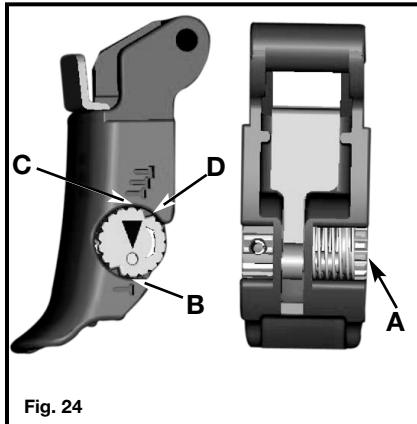
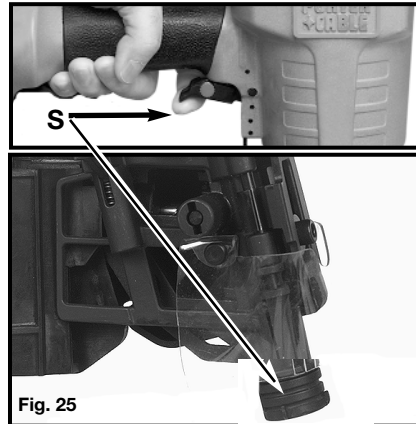

Fig. 24
Fig. 25
**1.** To use the tool in the **SINGLE SEQUENTIAL ACTUATION MODE** depress trigger lever pivot pin (A) Fig. 24, rotate arrow to position (B), and release. **Note:** Trigger lever pivot pin is spring loaded and held in position by locking tab (D) Fig. 24 to prevent movement during operation. To fire, grip tool firmly to maintain control, position nose of tool onto work surface, **push tool firmly against work surface to depress safety, as shown at (S) Fig. 25, and then squeeze trigger to fire a fastener.** Allow tool to recoil away from work surface as fastener is driven. This “**single sequential actuation**” method provides the most accurate fastener placement.
**2.** To use the tool in the **CONTACT ACTUATION MODE** depress trigger lever pivot pin (A) Fig. 24, rotate arrow to position (C), and release. **Note:** Trigger lever pivot pin is spring loaded and held in position by locking tab (D) Fig. 24 to prevent movement during operation. To fire, grip tool firmly to maintain control, **squeeze and hold trigger, push tool firmly against work surface to depress contact safety, as shown at (S) Fig. 25, and fire a fastener.** Allow tool to recoil away from work surface as fastener is driven. If safety element is allowed to recontact work surface before trigger is released an unwanted fastener will be fired. The tool will fire a fastener each time the contact safety is depressed. This method is known as “**contact actuation**” and allows very fast repetitive fastener placement.